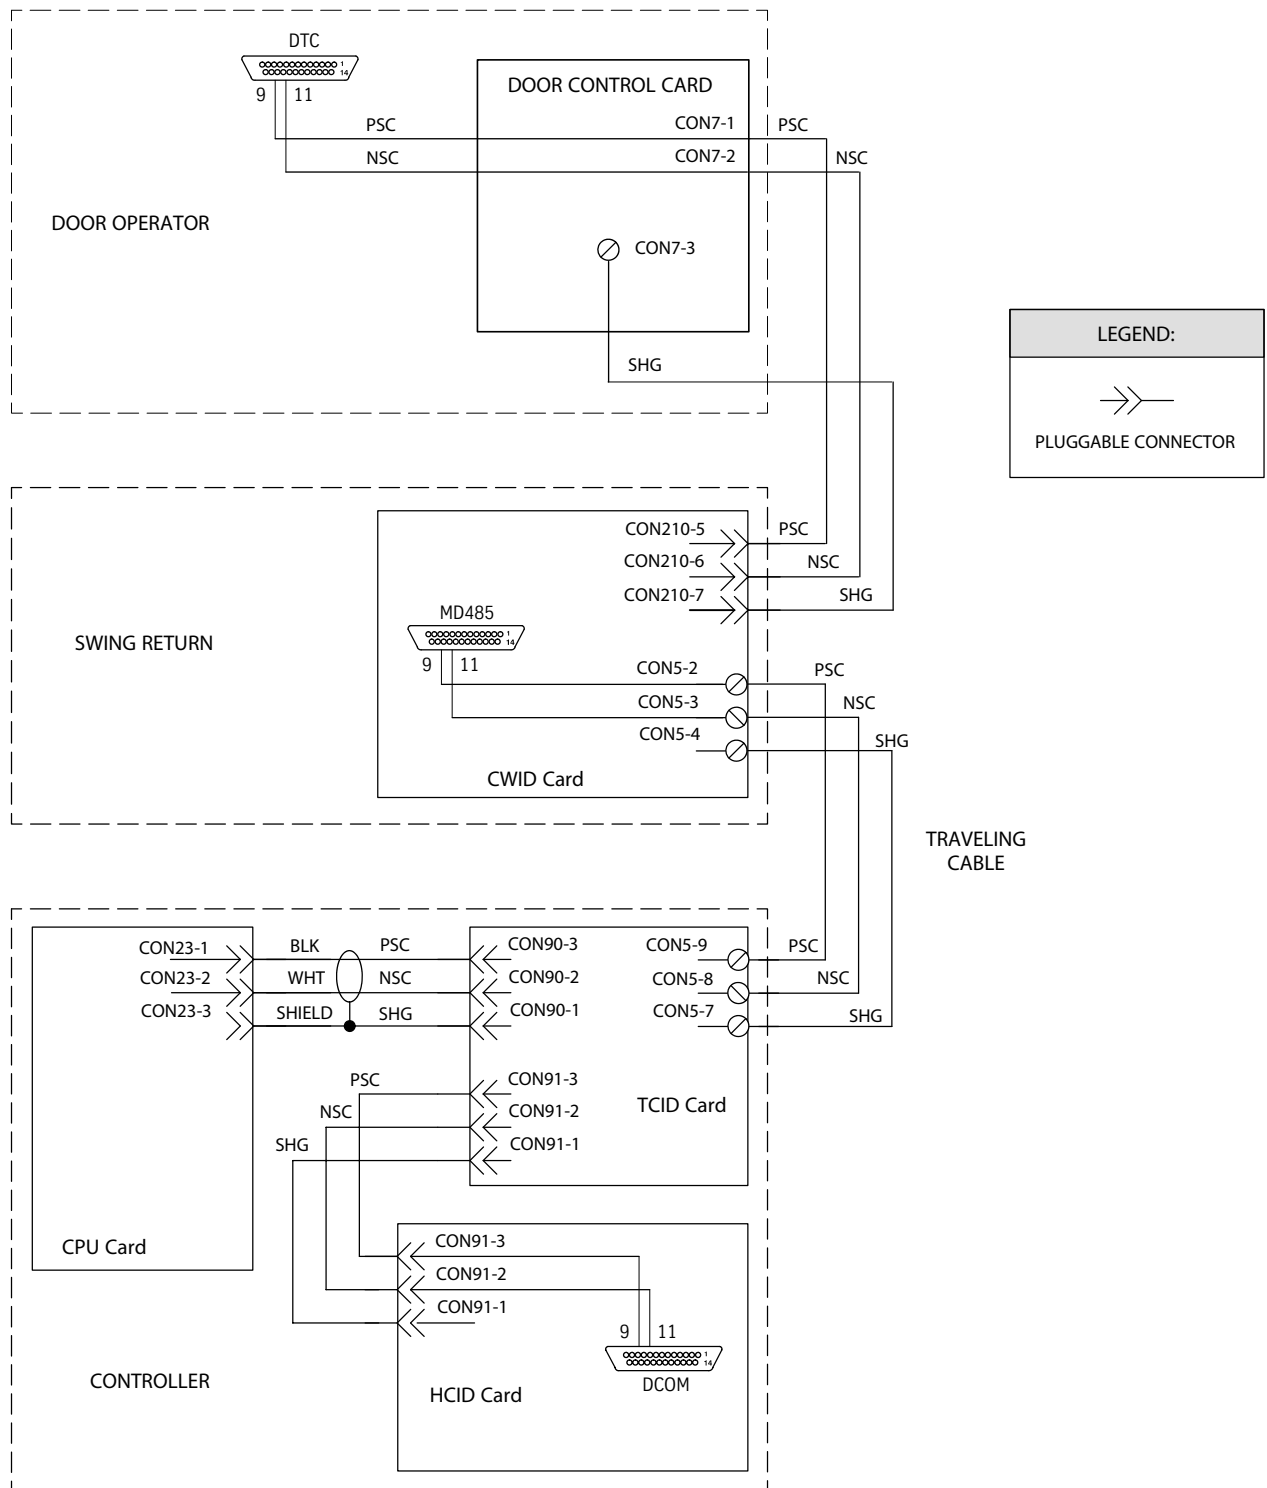

Figure 34 - Door Operator Communications Wiring
- a. Find the wiring problem. See Figure 34 on page 131.